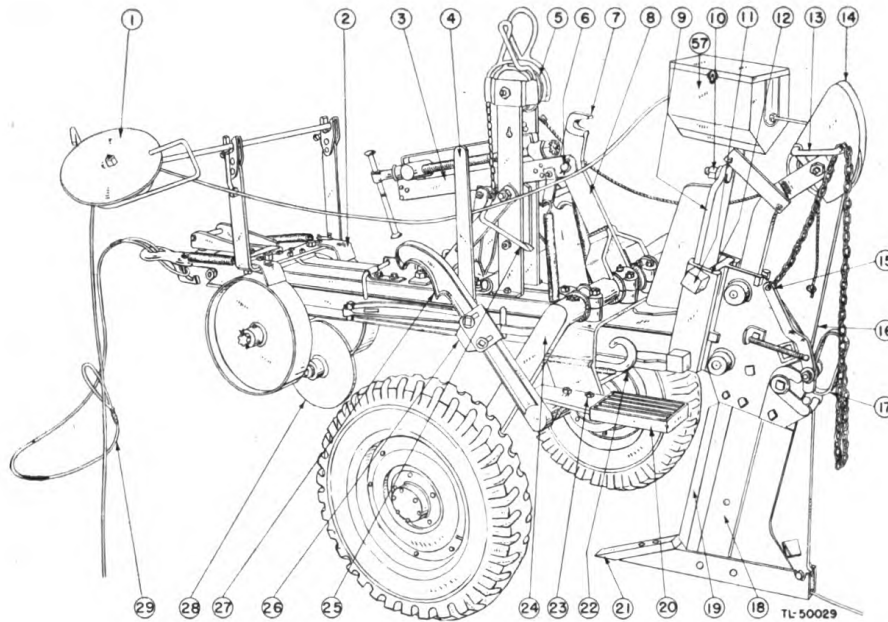

Figure 1. Plow LC-61 (Cable), left side.
Operators of Plow LC-61 (Cable) can identify the principal parts by referring to the following list. Numbers (1) to (56), inclusive, below, correspond to those in figures 1, 2, and 3, making it possible to locate each of these parts. These numbers are used throughout this manual to assist in identifying parts:
- (1) *Front sheave and guide.* To pick up cable laid on the ground.
- (2) *Wheel scrapers.* Keep front wheels clean.
- (3) *Sliding bar.* Aids in depth adjusting.
- (4) *Lifting-hook lever.* Operates lifting hooks for normal lifting of standard.
- (5) *Center sheave and guide.* Cable passes over this.
- (6) *Tumbling-arm pin.* Holds tumbling arm in place.
- (7) *Tumbling-arm hook.* For emergency lifting of the standard.
- (8) *Tumbling arm.* Part of depth control mechanism.
- (9) *Standard guide plate.* Support for standard.
- (10) *Stop bolt for standard guide plate.* Limits movement of standard.
*a.* Before attempting to assemble the plow, carefully study figures 1, 2, and 3. The bolts required to assemble the various units will be found in place with the nuts fingertight. Usually, two men can assemble Plow LC-61 if a hoist or jack is available. If a hoist or jack is not available, several additional men will be necessary. Separate sets of instructions for assembling the plow are given, depending upon whether the plow has been packed for domestic or oversea shipment.
(1) Hoist or jack up the rear of the cable plow frame high enough to slip on the rear wheels. Remove the burlap wrapping from the ends of the axle stubs and wipe them clean. Remove the hub caps from the hubs. Place a grease seal and then a bearing over one axle stub, smear the bearing with grease, and place a